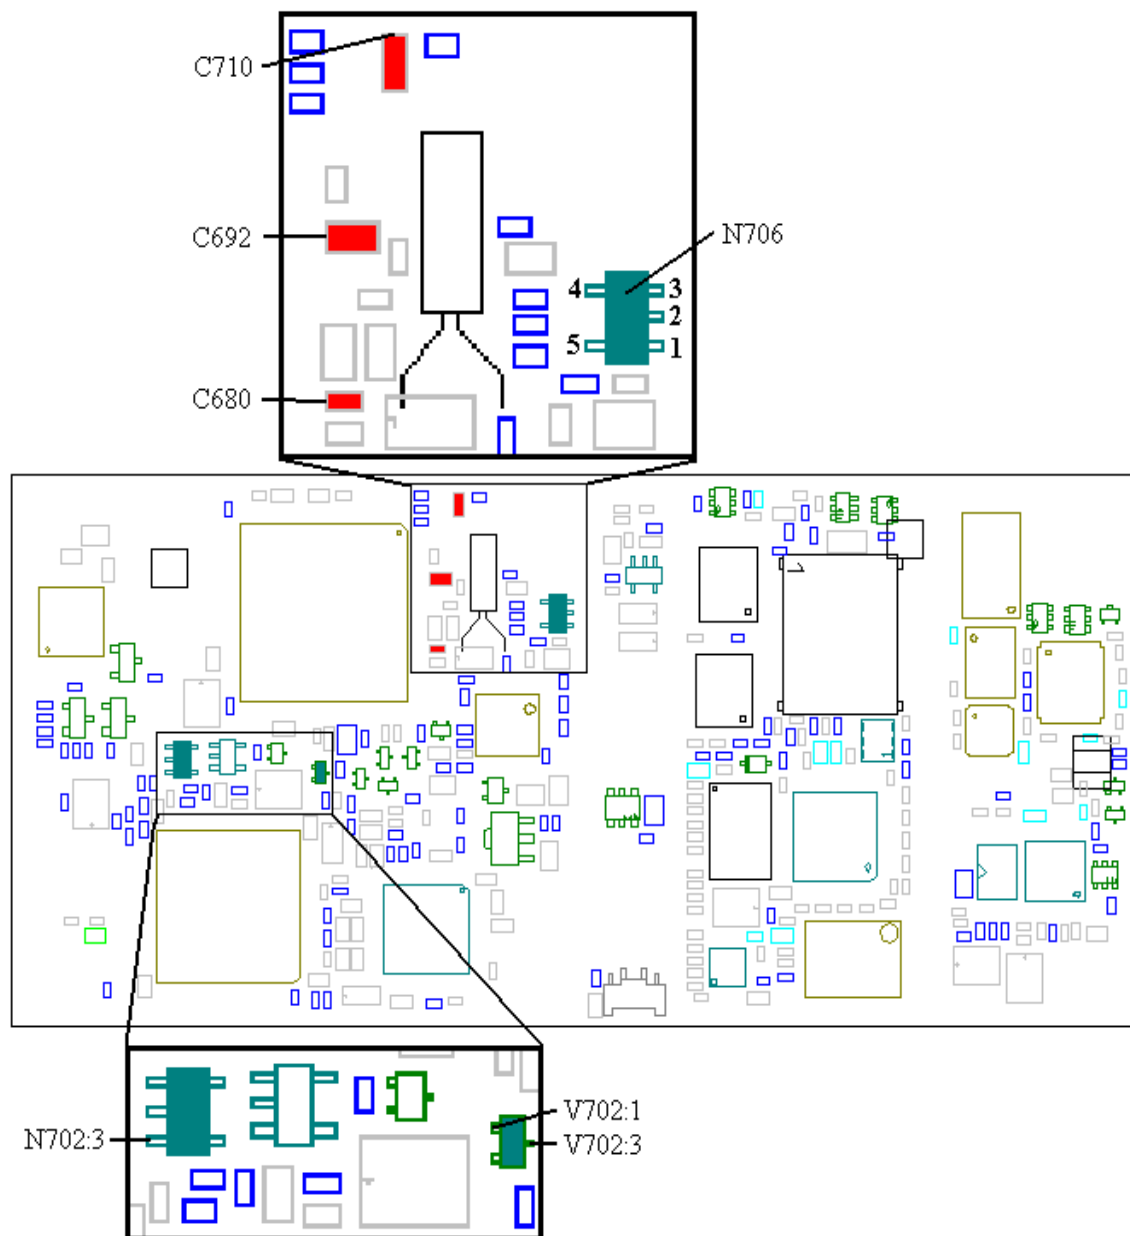
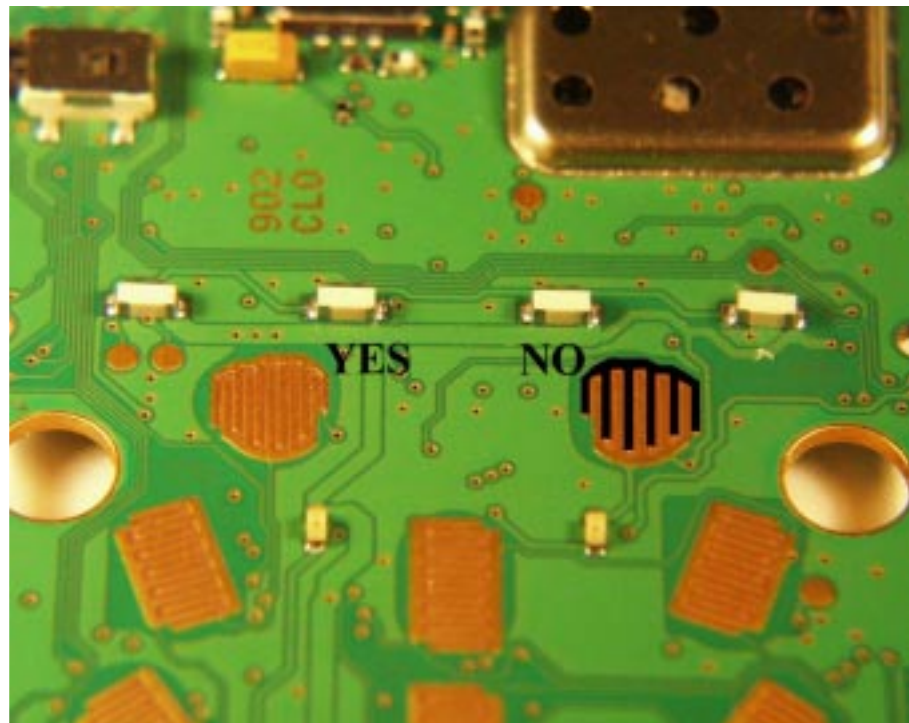

Fig. 3.4
Fig. 3.5
- If there's voltage at all of the regulators, measure the voltage at pin 1 of V702 (~0V, fig. 3.4).
- If the phone still doesn't consume any current, measure the resistance from the marked side of the "No" key (On/Off, fig. 3.5) to pin 1 of V702 (fig. 3.4, ~2.2 kohms).
- * If the resistance is correct, measure the resistance from pin 3 of V702 to pin 3 of N702 (fig. 3.4, ~0 ohms).
- * If the resistance is correct, replace V702 (fig. 3.4, class A).
Measure the voltage at C692 (~3V, fig. 3.4).
- If the voltage is correct, measure the resistance of C692 (>200 kohms, fig. 3.4).
- * If the resistance is correct, check the voltages at N706 (pin 1 – GND, pin2 – VBATT, pin 3 – ~3V output voltage, fig. 3.4).
- * If the voltage is correct, measure the resistance from the positive side of C720 (fig. 3.6) to the marked side of C692 (fig. 3.4, ~0 ohms).
- If the resistances are correct, check the power reset voltage at C710 (fig. 3.4, >3V).
- * If the solderings are correct, measure the amplitude (>0.6V p-p) of the MCLK signal (master clock, 13MHz) at C680 (Fig. 3.4) using an oscilloscope or a diode probe (if possible).
- * If the amplitude is too low, replace C680 (class A, fig. 3.4).